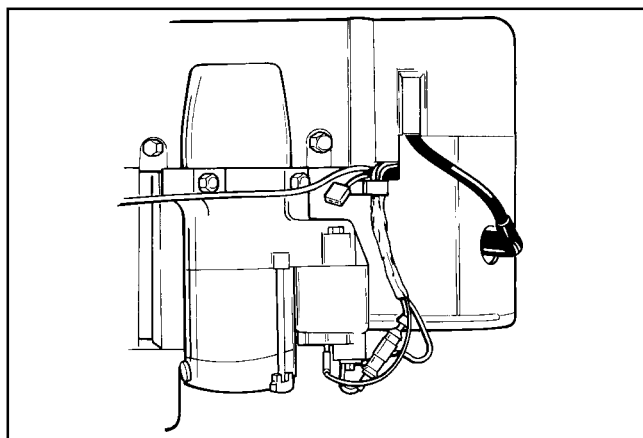

Figure 11-57. Wires on Starter Side of Engine.
1. Pull the wire harness and spark plug leads out through the appropriate openings in the shrouding. See Figures 11-57 and 11-58.
3. Position the outer baffles and secure using the four hex. flange screws (two long, two short) in the front mounting holes (into cylinder head), including any lifting strap or attached bracket(s). Install the two short screws in the upper mounting holes of the outer baffles (into the backing plates). See Figures 11-60 and 11-61. Use the short screw on the left side to mount the wire harness bracket. Be sure any leads are routed out through the proper offsets or notches, so they will not be pinched between the blower housing and baffles. See Figures 11-57 through 11-59.